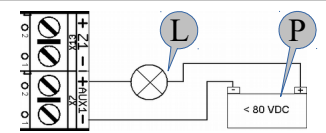

Figure 6: Auxiliary outputs example, with a lamp and an external battery.
Auxiliary outputs that are available for each zone can be used as switches that close a connection when actuated. Figure 6 represents a circuit with a lamp (L), using an external power-supply (P). (Maximum specifications: 80 VDC, 500mA)